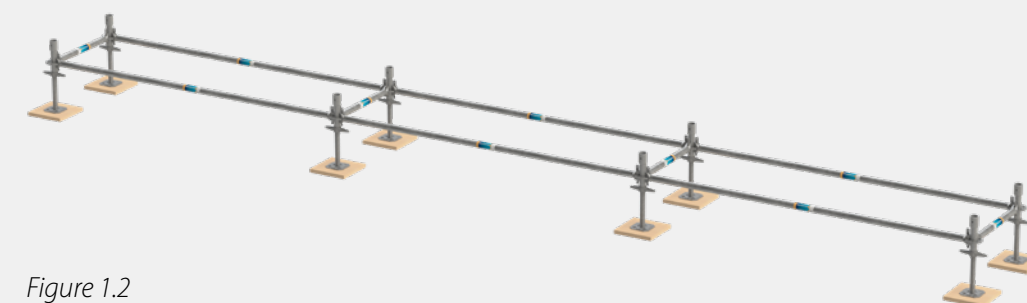

Figure 1.2
- 1.2.3 Repeat these steps to position base jacks at all four corners of the bay and then connect them with tubular ledgers/intermediate ledgers (see figure 1.2.).